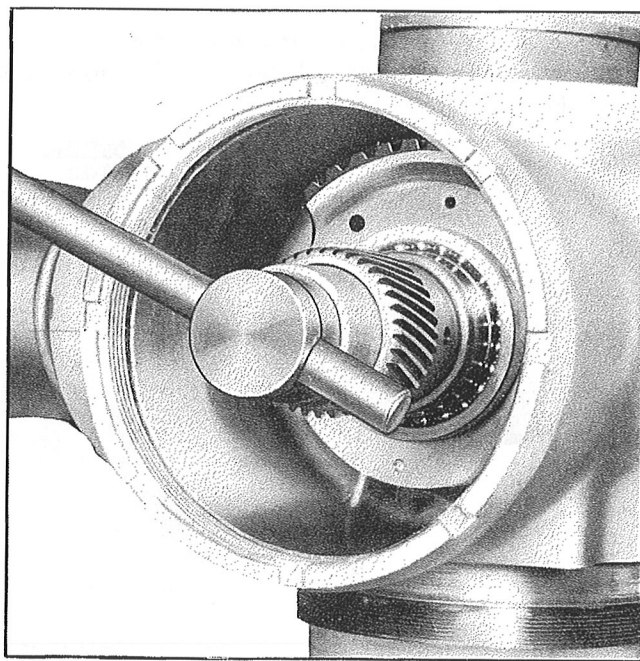

Figure 112—Removal of the Fixed Spline Bolt
*Step 7.*—Using the Fixed Spline Bolt Wrench, Figure 66-2 and a square socket handle, turn the fixed spline bolt counterclockwise until free, as shown in Figure 112. Withdraw the fixed spline bolt, steel washer and star washer lock shown in Figure 106-B.